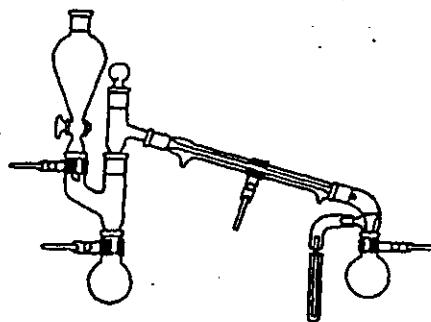

Figure 2. Diazald Kit
Diazald Kit - available from Aldrich Chemical Co. (Cat # Z10,025-0). See Figure 2.
1. Assemble the Diazald Kit as shown in Figure 2. Place the reaction vessel (500 mL round-bottom flask) in a water bath. Place the receiving flask in an ice bath.